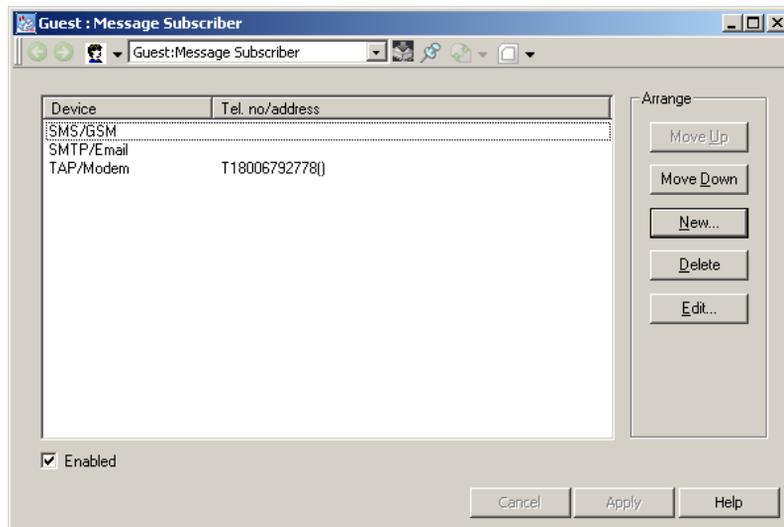

Figure 103. Message Subscriber with Added Devices
11. Figure 103 shows the Message Subscriber at this point in the procedure. Select `SMS/GSM` in the Message Subscriber and click **Edit** to access the SMS/GSM Device.